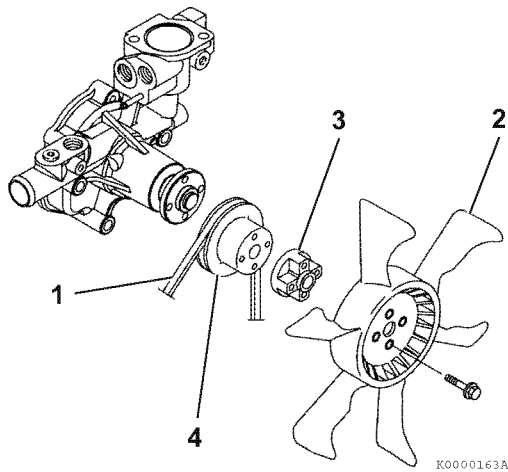

Figure 7-26
14. Reinstall the coolant pump V-pulley (**Figure 7-26, (4)**), spacer (**Figure 7-26, (3)**) (if equipped) and engine cooling fan (**Figure 7-26, (2)**).
15. Reinstall the cooling fan V-belt (**Figure 7-26, (1)**). Adjust as described in *Check and adjust cooling fan V-belt on page 5-14*.